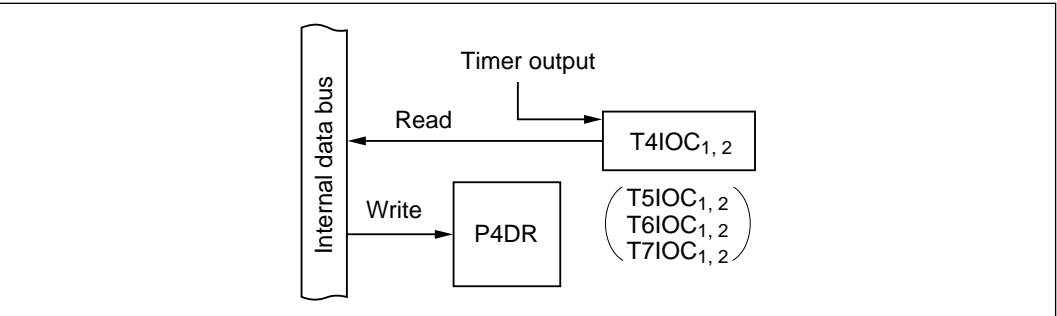

Figure 10-24 Output Compare Pins (Modes 1 to 7)
(3) Timer Output Pins (Modes 1 to 7): Figure 10-24 shows a block diagram illustrating the output compare function. Table 10-18 indicates register read/write data. When a pin in port 4 is used for output compare, the value in the port 4 data register (P4DR) has no effect on the timer output. When read, P4DR returns the timer output level (T4IOC_{1,2}, T5IOC_{1,2}, T6IOC_{1,2}, T7IOC_{1,2}).